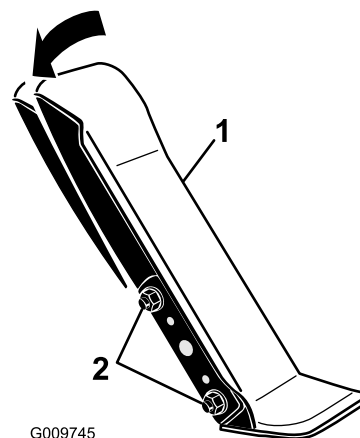

Figure 57
1. Loosen the two nuts and bolts securing the left side of the traction pedal to the bracket (Figure 57).
2. Pivot the pedal to the desired operating angle and tighten the nuts (Figure 57).